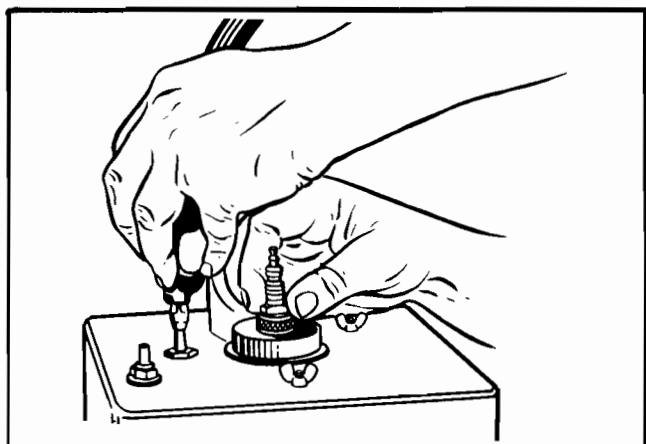
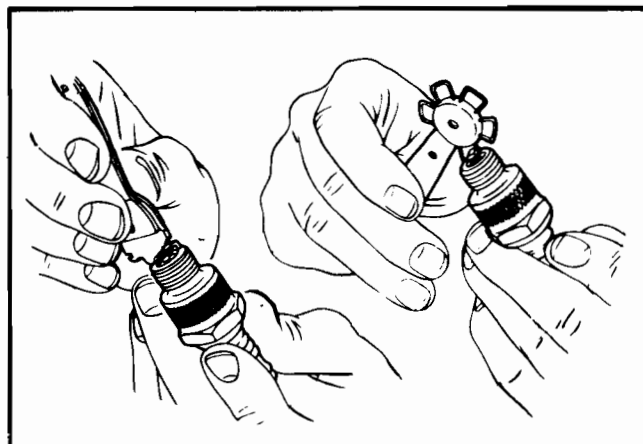

Figure No. 11—Cleaning the Spark Plug
Figure No. 12—Gapping the Spark Plug
2. The spark plug should be removed, cleaned (See Figure No. 11) and regapped (See Figure No. 12) after every 100 hours of operation. Cleaning should be accomplished with an automotive-type, sand blast spark plug cleaner. A new spark plug should be used in preference to one which has been cleaned.